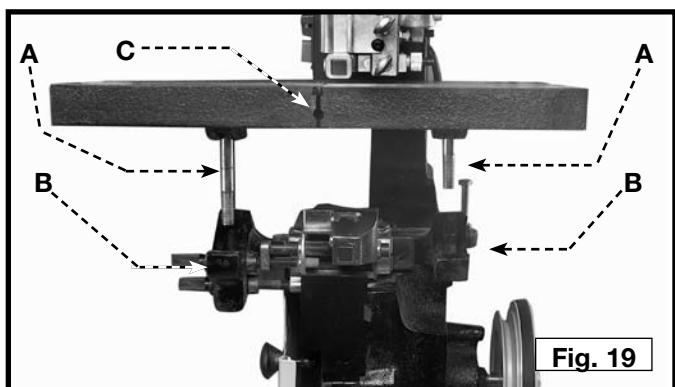

Fig. 19
2. Align the two table studs (A) Fig. 19 in the bottom of the table with the two holes in the trunnion assemblies (B).
- NOTE:** Confirm that the slot (C) Fig. 19 is facing toward the front.